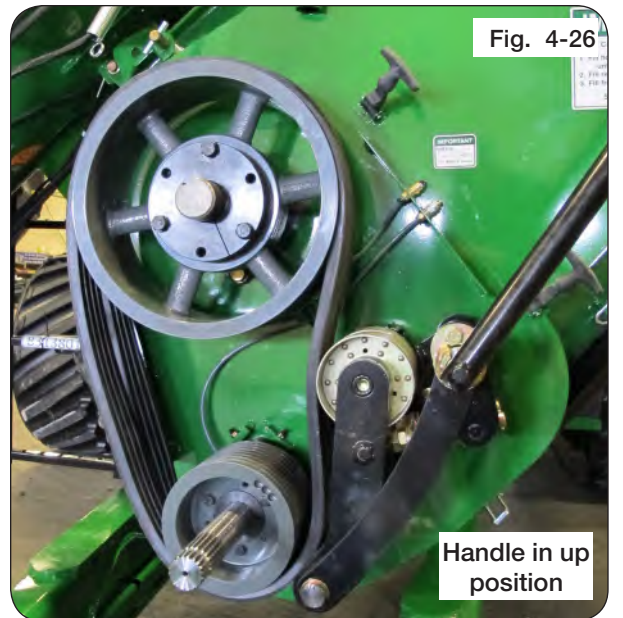

Fig. 4-26
6. Check the lower belt pulley to ensure belt is aligned in their grooves and with the belt tensioner handle, engage the roller/idler linkage against the belt and over-center stop. The compressed spring should now be approximately $1 \frac{3}{4}$ " between the washers and generating a force of approximately 480 lbs. against the belt. (Fig. 4-26)
7. Release and tighten belt multiple times to confirm positions and final adjustments. See Fig. 4-26 and Fig. 4-27.